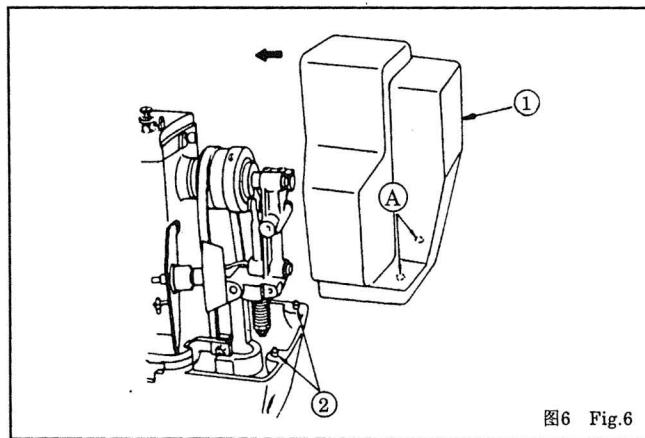

图6 Fig.6
5. INSTALLATION/REMOVAL OF BELT COVER Fig.6